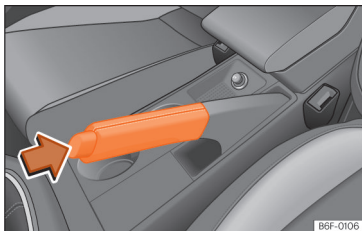

Fig. 162 Handbrake between the front seats.
– Pull the handbrake lever up »» **Fig. 162**.
– Pull the lever up slightly and press the release knob in the direction of the arrow »» **Fig. 162** and guide the handbrake lever down fully »» **△**.